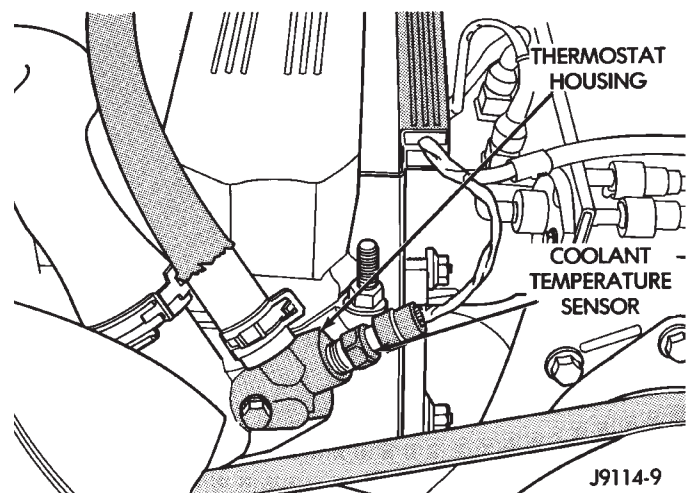

Fig. 14 Coolant Temperature Sensor—4.0L Engine
4.0L Engines: The sensor is installed in the thermostat housing (Fig. 14).
(1) Disconnect wire harness connector from sensor (Figs. 14 or 15). On 5.2L engines with air conditioning, do not pull directly on wiring harness. Fabricate an L-shaped hook tool from a coat hanger (approximately eight inches long). Place the hook part of tool under the connector for removal. The connector is snapped onto the sensor. It is not equipped with a lock type tab.
(2) Test the resistance of the sensor with a high input impedance (digital) volt-ohmmeter. The resistance should be less than 1340 ohms at normal engine operating idle temperature. For resistance values, refer to the Sensor Resistance chart. Replace the sensor if it is not within the range of resistance specified in the chart.
(3) Test continuity of the wire harness. This is done between Powertrain Control Module (PCM) wire harness connector terminal-2 and the sensor connector